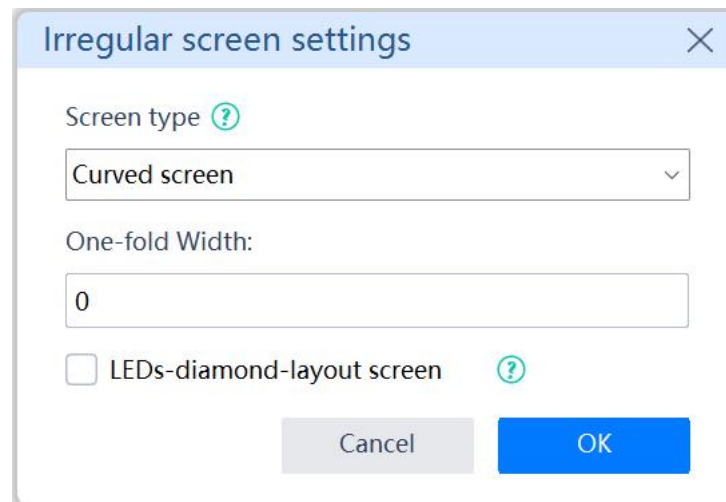

Fig.3-15 Curved screen settings
- ◆ **Curved screen:** Select this checkbox when the screen is a curved one assembled by modules with the same LEDs in row and in column. You should also enter a value in the **One-fold Width** input box for a curved screen according to the real situation. See Figure 3-15.